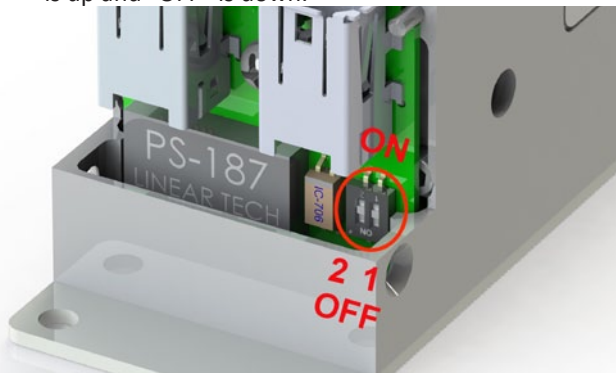

FIGURE 6-6: DIP SWITCHES
**NOTE: The "ON" and "OFF" positions are the opposite of the "ON" label on the switches. Figure 6-6 shows the DIP switches with the "correct" position labels.*